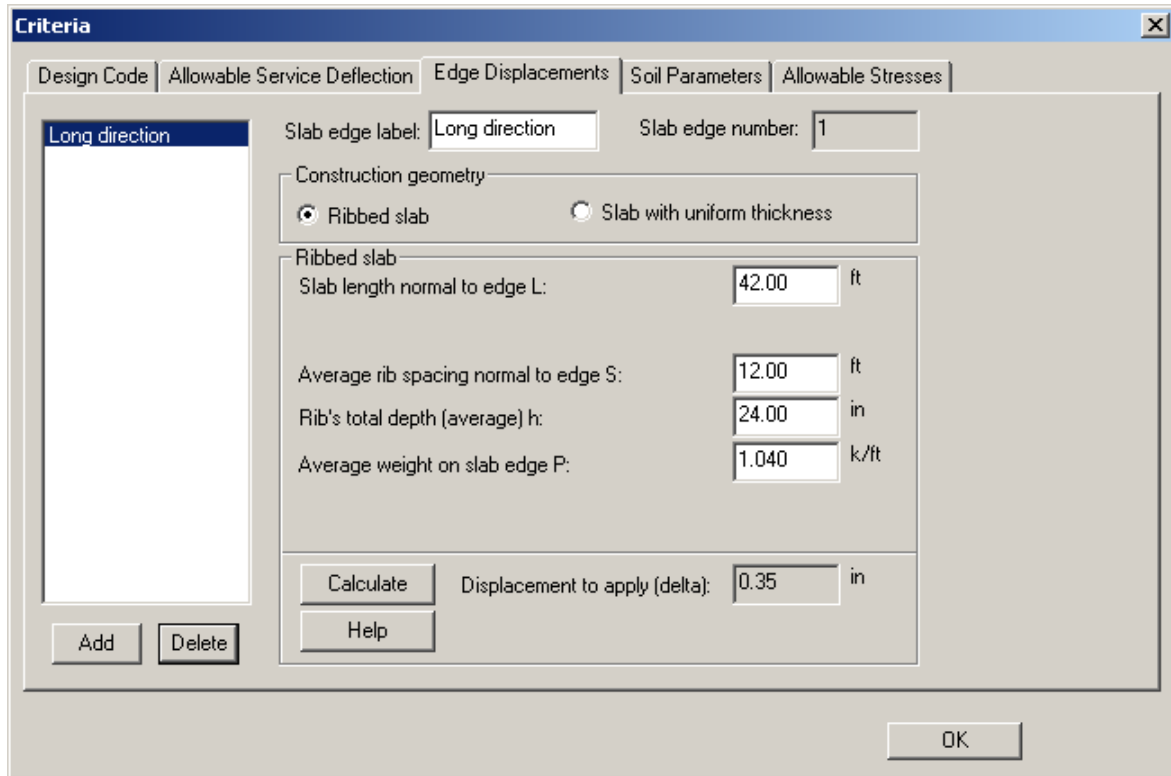

FIGURE 4.3-1 CRITERIA DIALOG BOX
- Select the *Edge Displacements* tab as shown in **Fig. 4.3-1**. Enter the following parameters for each direction and click *Calculate*.